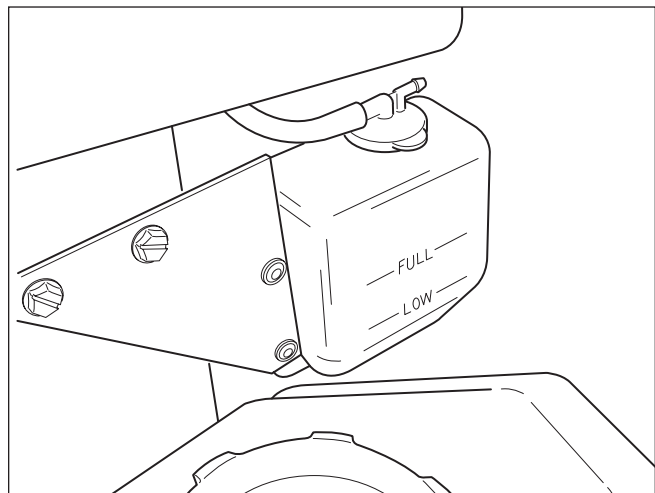

Figure 19. Radiator Expansion Tank
3. Check the coolant level in the radiator expansion tank (Figure 19). If coolant level is low, remove the cap add coolant until level is at the "FULL" line. Proper coolant mix is a 50/50 mixture of ethylene glycol and distilled water. See engine owners manual for engine coolant specifications.